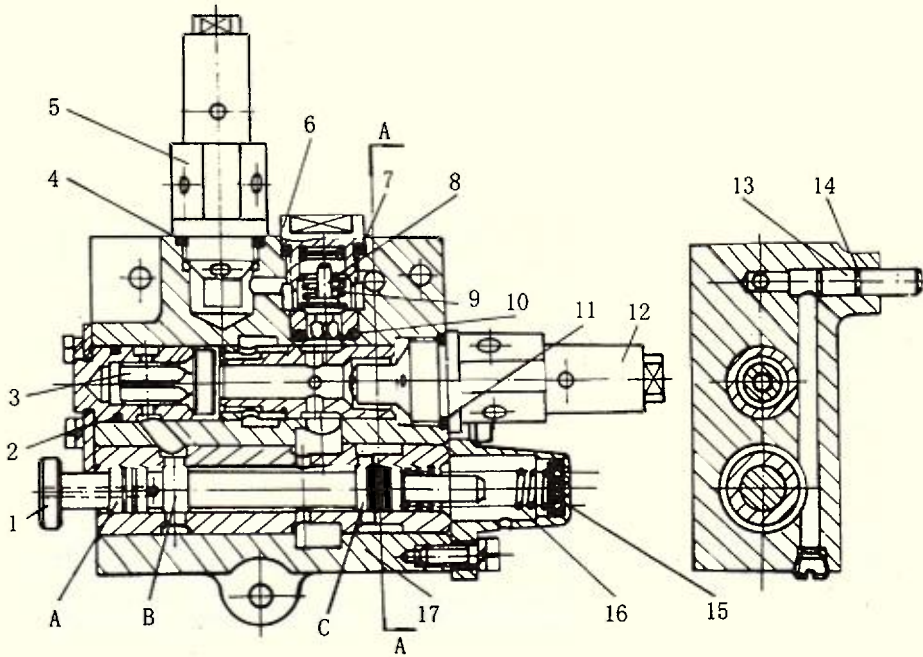

Fig. 16 - 15 Distributor assy.
1. Main control valve 2, 4, 7, 10, 11, 14. O-ring 3. Return valve 5. Safety valve (it has turned 90° in Fig. 16 - 15) 6. Check valve plug 8. Check valve 9. Check valve spring 12. System safety valve 13. Lowering speed control valve 15. Steel ball assy. 16. Return spring of main control valve 17. Housing